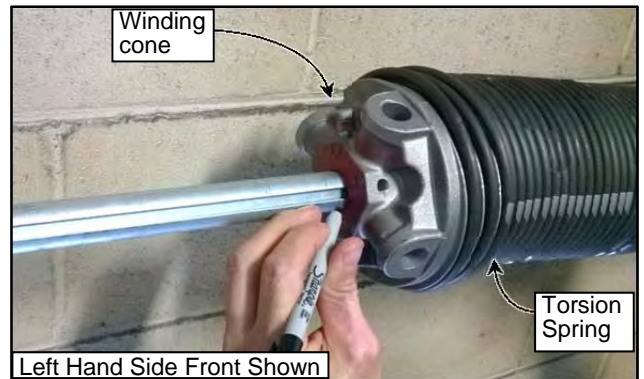

Figure 44
10. Mark the shaft just beyond the winding cone at its edge as shown. (See Figure 44)